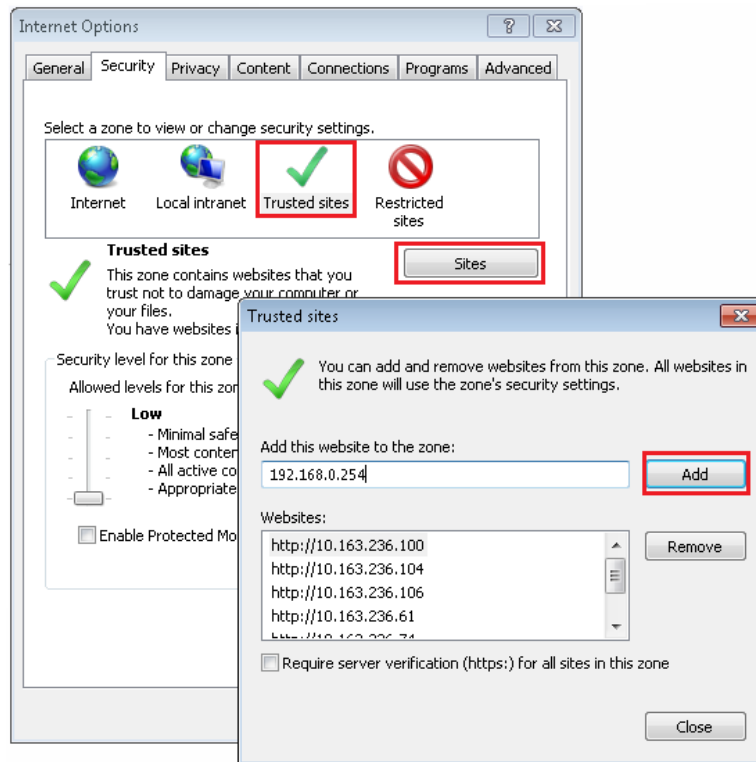

Figure 3-8 Adding trusted sites
6. In the window shown in Figure 3-8, add the IP address of the RDU-A G2 into the trusted site list.